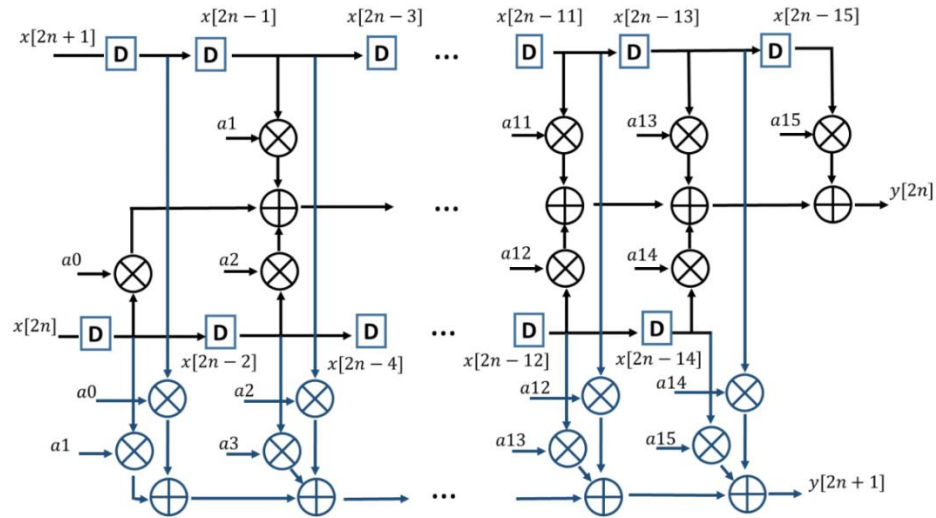

Figure 3. Parallel structure.
- Parallel structure is a MIMO system, multiple inputs can be processed in one cycle, as a result, the overall throughput is improved. Figure 3 is parallel architecture, it can be expressed as below: